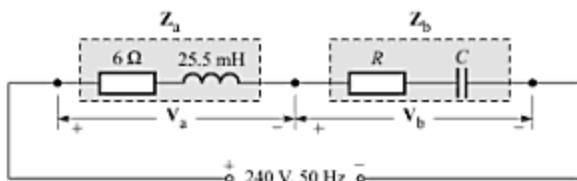

Fig. C-67
- C-106.** The series combination of an inductive impedance  $Z_a$  consisting of  $R = 6\ \Omega$  and  $L = 25.5\text{ mH}$  and an unknown capacitive impedance  $Z_b$  is connected across  $240\text{-V}$ ,  $50\text{-Hz}$  supply, as shown in Fig. C-67. It is found that the voltage  $V_a$  across  $Z_a$  is three times the voltage  $V_b$  across  $Z_b$ , and are in quadrature. Determine the values of  $R$  and  $C$ .